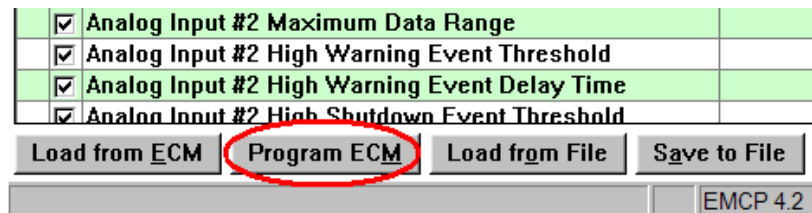

Figure 36: Program ECM
7. After any selection changes are completed, click **"Program ECM"** from the bottom of the ECM Replacement screen to load the file into the EMCP 4. See Figure 36.